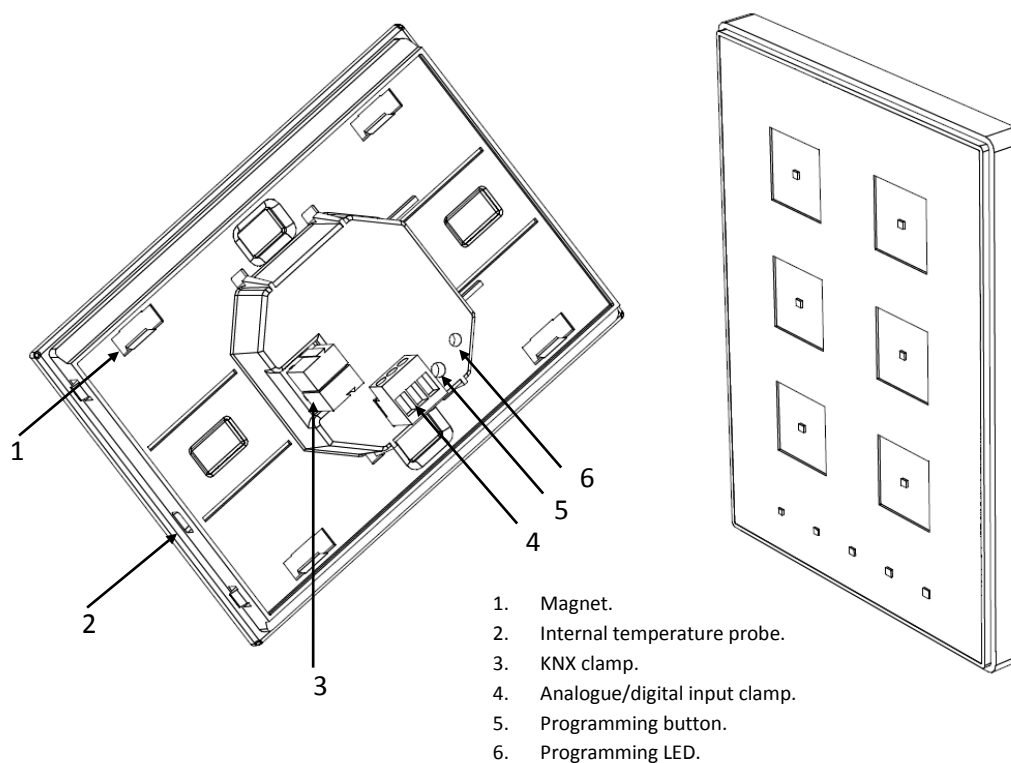

Figure 3 Touch-MyDesign. Element diagram.
The programming button (5) shown in Figure 3 may be pressed with the help of a thin screw to set Touch-MyDesign in **programming mode**. After a short press, the programming LED will light in red. Note that if this button is held while plugging the device into the KNX bus, the device will enter the **secure mode**. The LED will then blink in red.